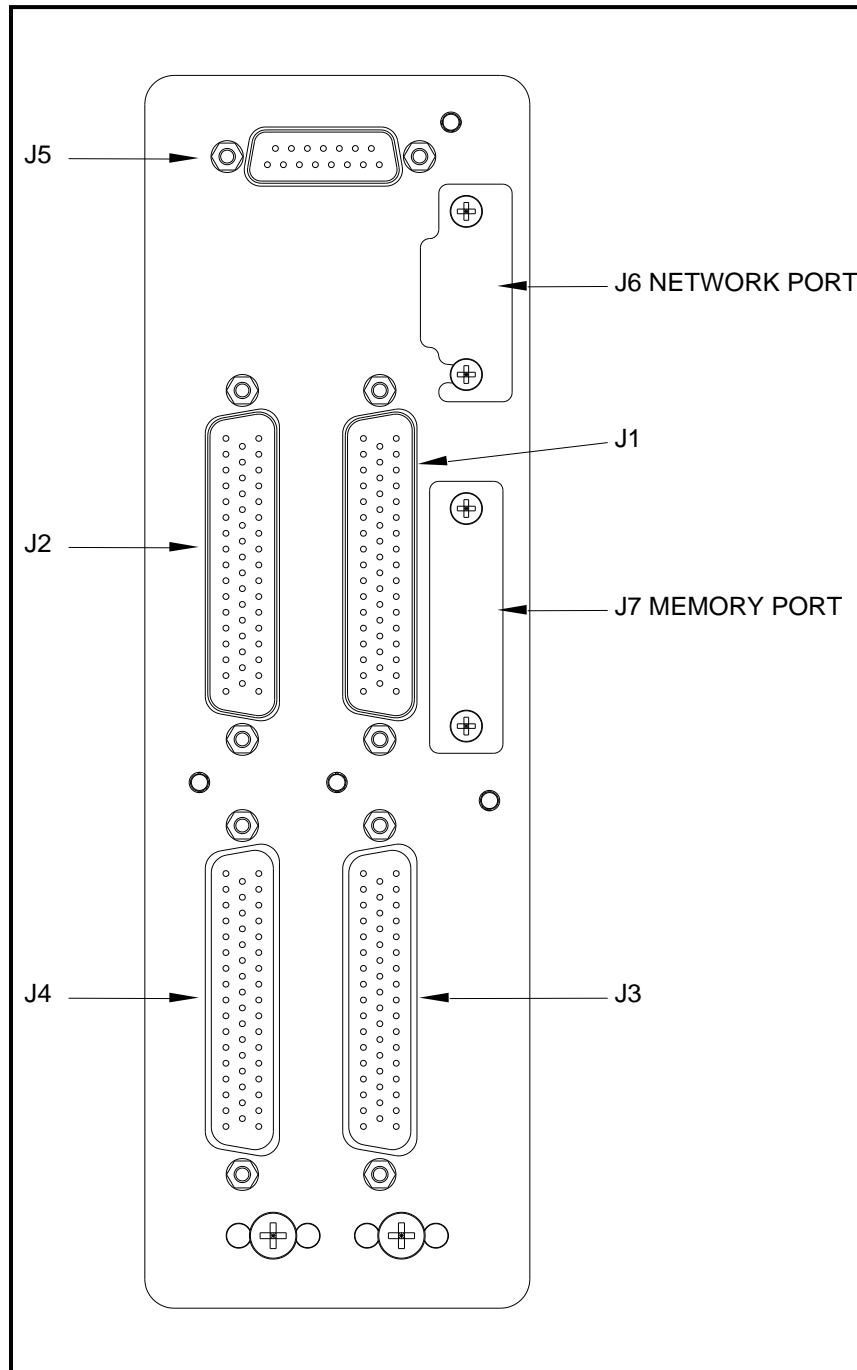
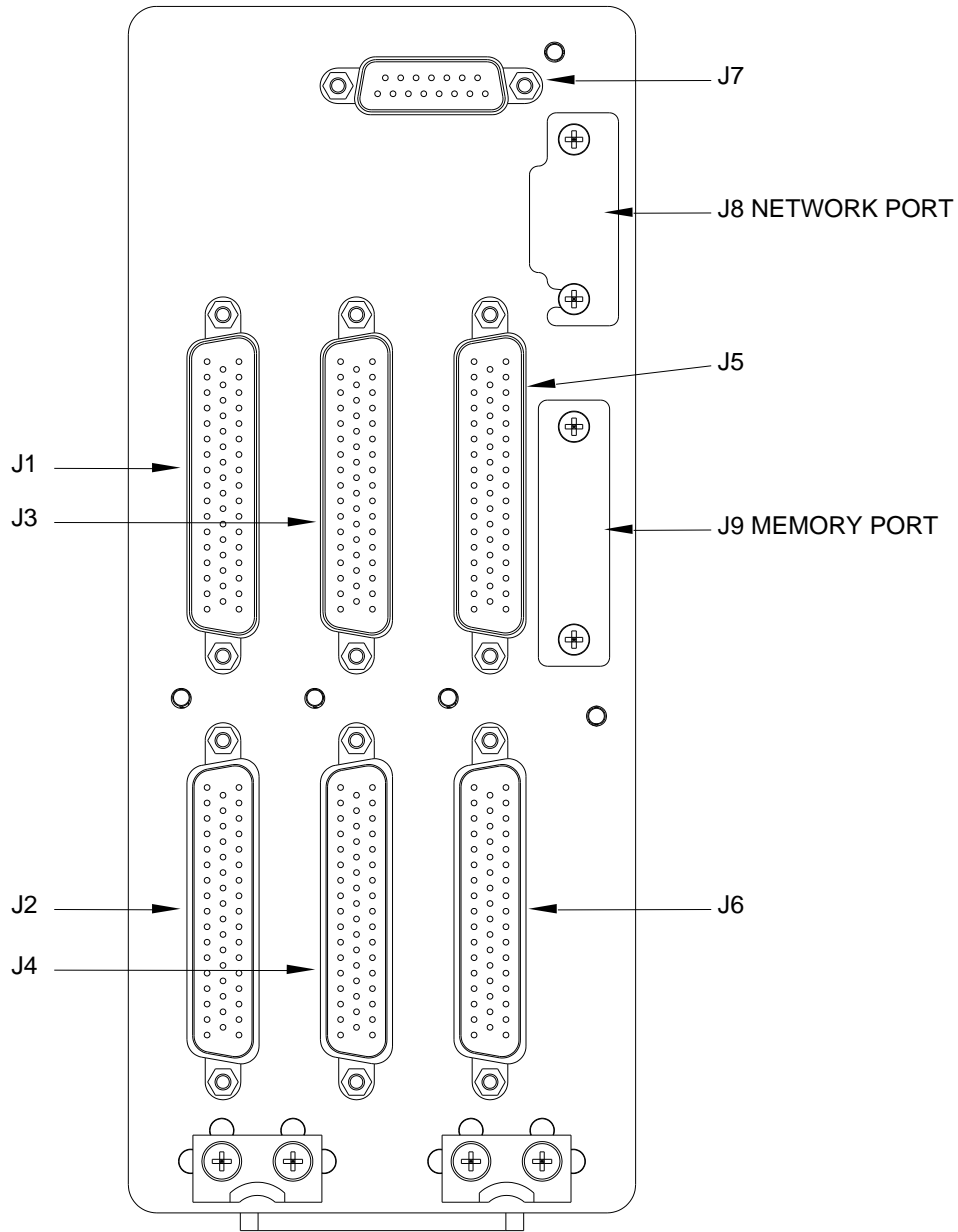

Figure 16: G13000 Digital Router Connector Layout
Figure 17: G13160 Digital Router Connector Layout
- e. Reconnect all applicable cables to the Digital Router. Reference Figure 16 for all Digital Router Connection Ports.
- b. Locate and install (4) #10-32 inserts (I/N 4) in accordance with Eurocopter Repair Manual.
- c. Mount Tray to shelf using (2) Shims and (4) MS24693S276 Screws.
- e. Reconnect all applicable cables to the Digital Router. Reference Figure 16 and Figure 17 for all Digital Router Connection Ports.